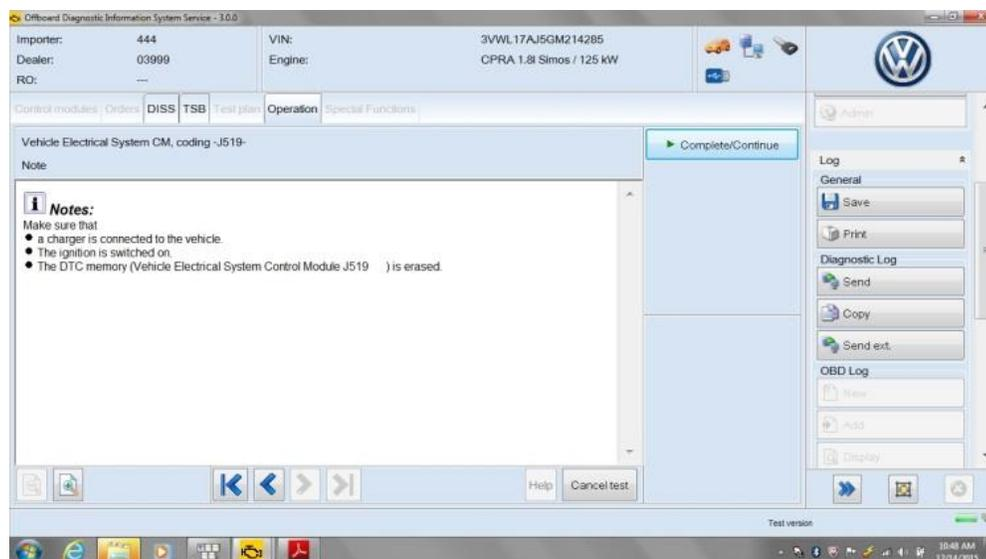

Figure 4
- Connect charger to vehicle, switch ignition on and depress complete/continue. (Figure 4)